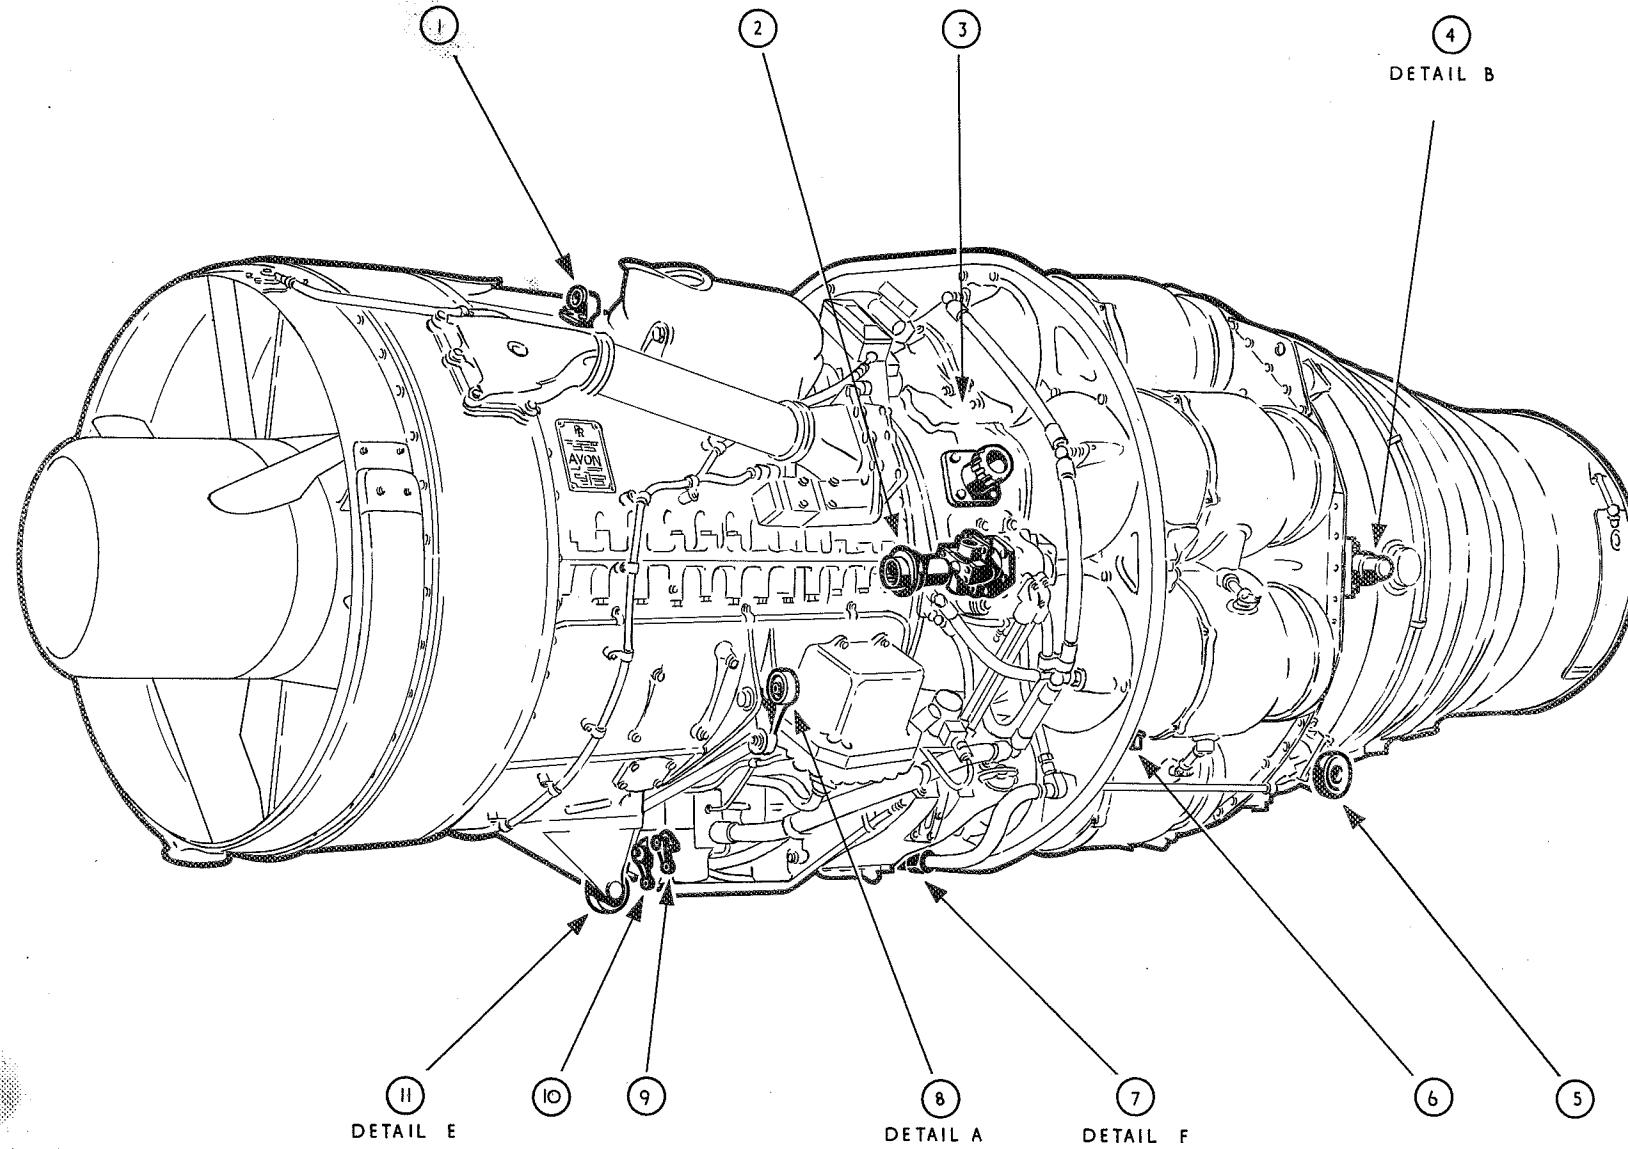
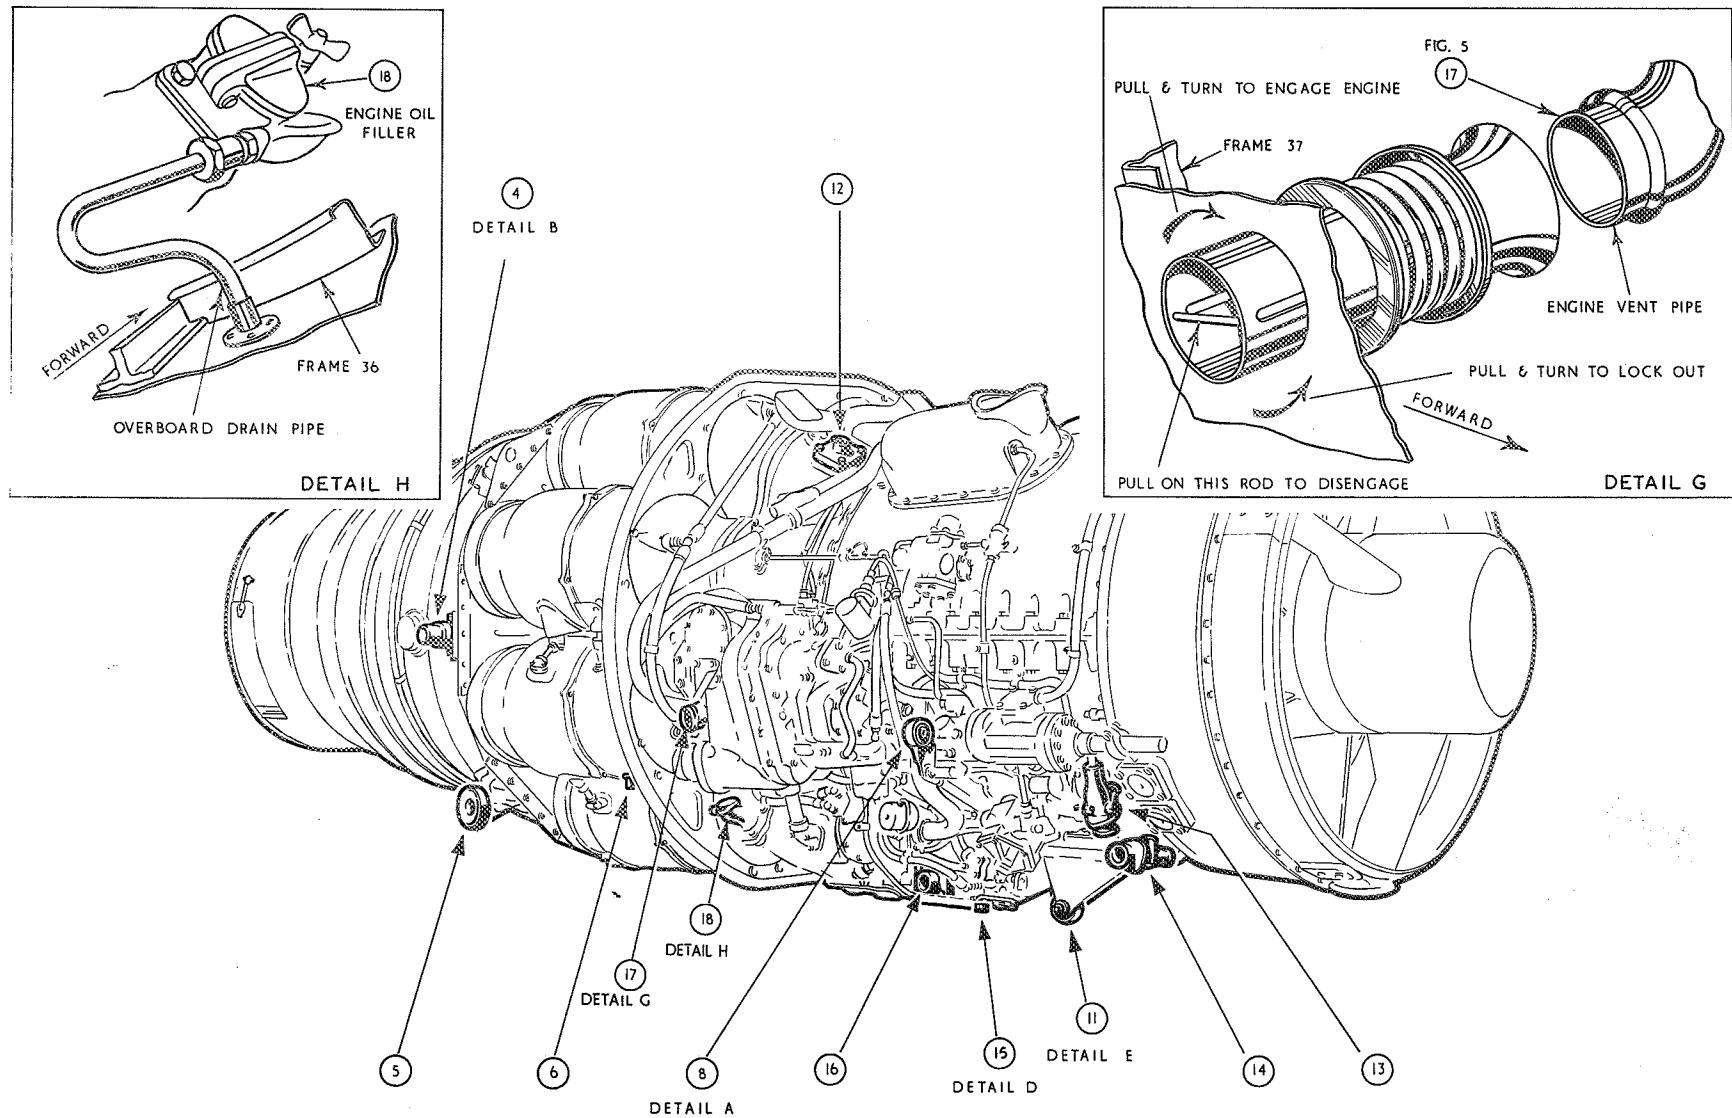
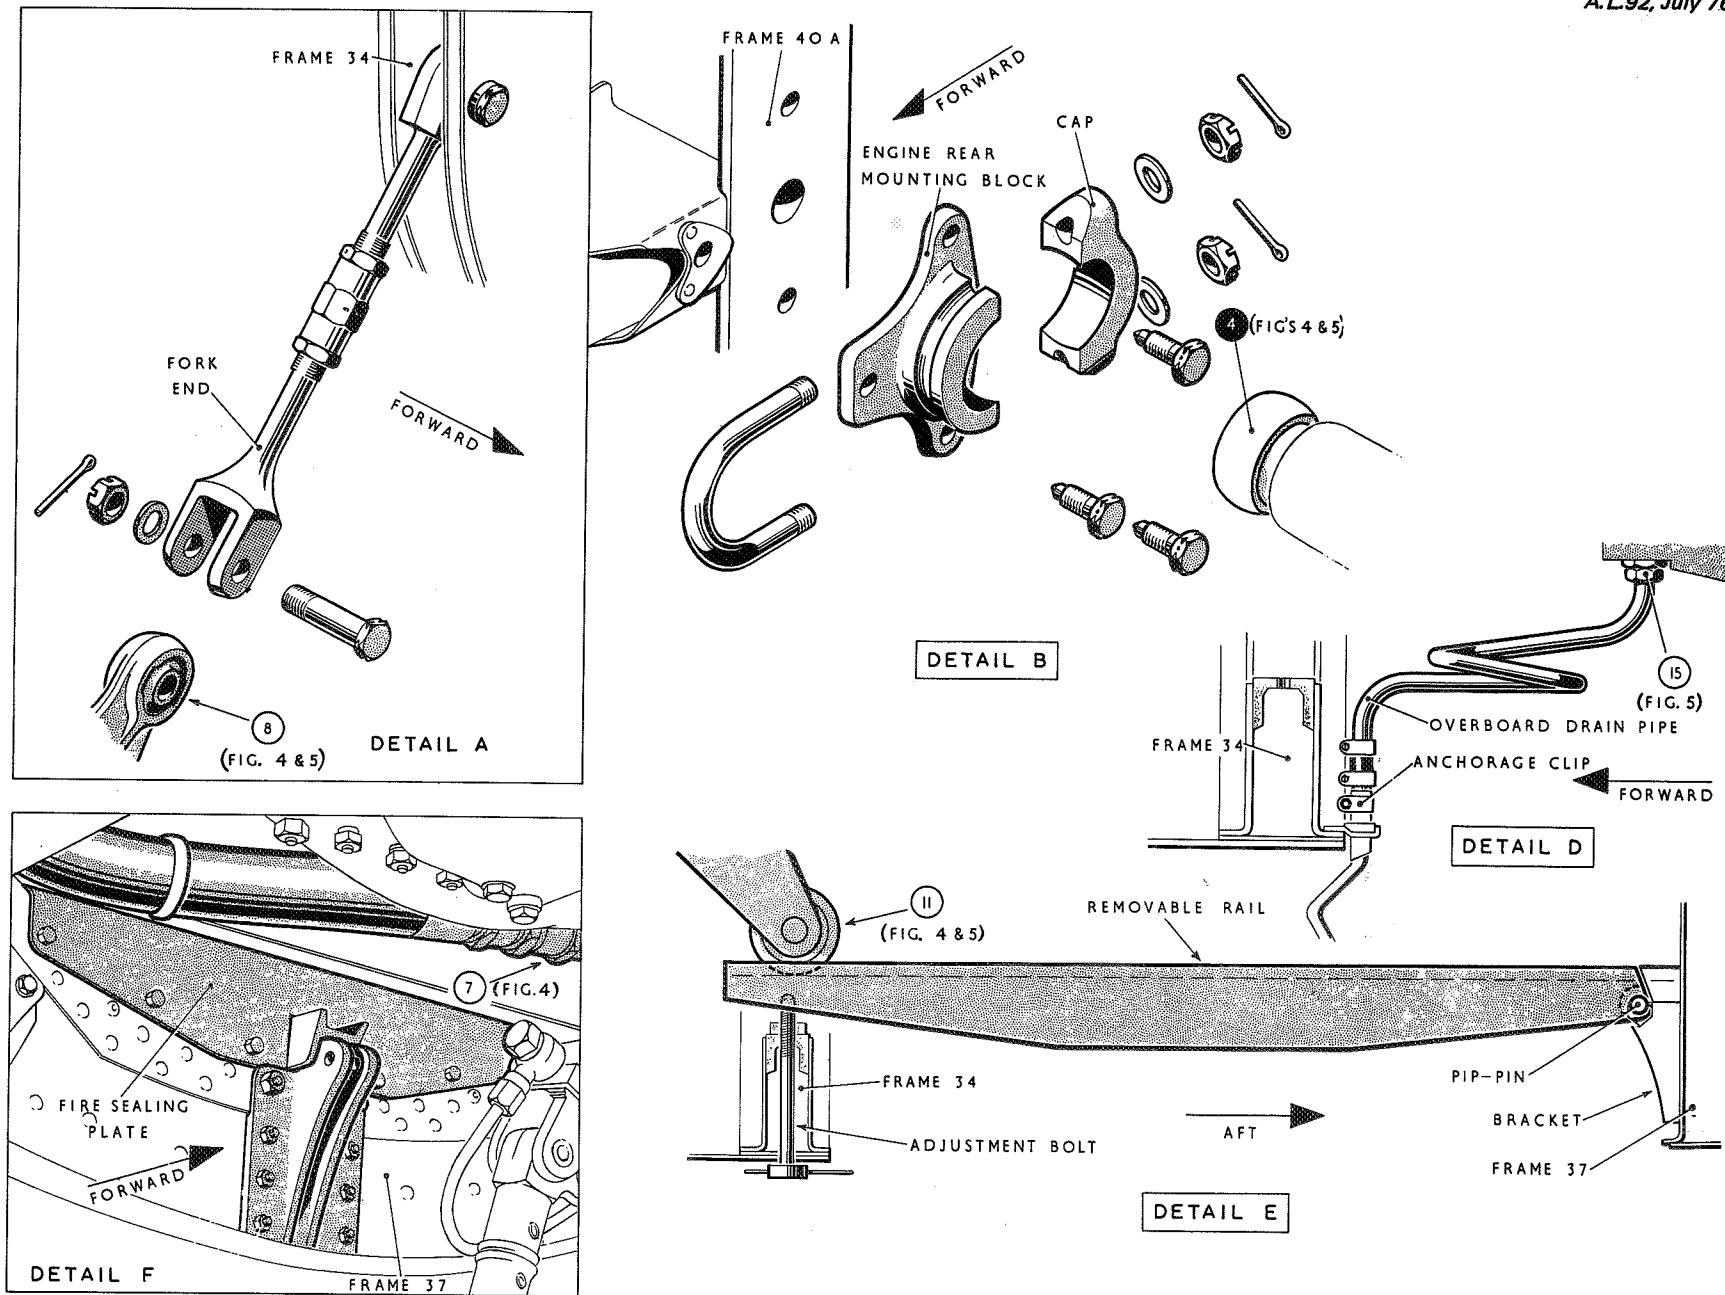

Fig. 4. Engine removal (1)
Fig. 5 Engine removal (2)
Fig.6 Engine removal (3)
Engine removal (fig. 4, 5 and 6)
(5) Remove the wheelcase breather (item 17, fig. 5).
(6) The following disconnections are given in sequence under their appropriate access door or panel:—
- (b) *Gearbox access door.* Disconnect and stow the cable assemblies C.3 and C.6 (fig. 5 items 13 and 14).
- (c) *Engine access door.* Disconnect and remove the drain pipe from the oil filler (item 18, fig. 5). Disconnect the overboard drain pipe (detail D, fig. 5 and 6) from the engine access door landing aft of frame 34 by removing the anchorage clip from the drain connection and from the spill connection (15) at the bottom of the fuel units and fuel pressure warning light switch. Remove the drain pipe from the aircraft. Disconnect the two connecting rods from the high pressure cock and throttle levers (item 9 and 10, fig. 4) and from their respective Teleflex wrapped box units on frame 34. Disconnect the fire extinguisher hose (detail F, fig. 4 and 6) from the rigid metal pipe (item 7, fig. 4) on the engine. Tuck back the hose behind frame 37. Unscrew the six bolts from the fire sealing plate (detail F, fig. 4 and 6) on the forward face of frame 37. Remove the plate from the aircraft. Unscrew the four nuts and disconnect the fuel inlet
pipe from the fuel units (item 16, fig. 5) and from the connection behind the nearest flexible coupling. Remove the pipe and coupling from the aircraft. Place the removable rail (detail E, fig. 6) between frames 34 and 37 and lock in the bracket on the forward face frame 37 by inserting the pip pin. By screwing up the adjustment bolt through the bottom of frame 34 bring the rail into contact with the engine front roller (11) (detail E, fig. 6).
(d) *Engine front mounting access panels.* Disconnect the engine front mountings (detail A, fig. 4 and 6) and pull the fork ends flush to frame 34 in order to clear the engine front mounting eyes (item 8, fig. 4) and avoid fouling the engine on removal. Prise back the serrated, spring loaded locking ring and unscrew the shaft retaining nut to break down the gearbox drive shaft (item 2, fig. 4).
Disconnect the high energy igniter plugs (item 6, fig. 4 and 5) from the combustion chambers numbers 3 and 6.
(f) **Cold air unit access panels.** Disconnect the flexible metallic fuel-tank pressurizing pipe from the engine (item 3, fig. 4) and from the non-return valve aft of frame 36. Remove the pipe from the aircraft. Disconnect the flexible air conditioning pipe from the engine (item 12, fig. 5) and from the connection behind the flexible coupling. Remove the pipe and coupling from the aircraft.
(g) **Engine bleed valve duct panel.** Pre-mod. H.1009 — PR Mk.11 aircraft only. Disconnect the flexible metal-braided gun heating pipe from the elbow on the engine (item 1, fig. 4) and tie back to the aircraft structure.
(7) Having disconnected the above items, align the engine removal trolley with the engine rail lug on the rear face of frame 40A. Screw down the built in jacks at each corner of the trolley and raise it to the required height. Bring the engine rear roller channels of the trolley into alignment with the engine rear rollers (item 5, fig. 4 and 5) by turning the lateral adjustment handles on the cross members above the trolley axles. Lock the trolley to frame 40A by inserting the pip pin in the con-
necting link of the trolley. Dismantle the engine rear mountings (detail B, fig. 6) by removing the split pins, slotted nuts and washers from the 'U' bolts. Withdraw the caps off the 'U' bolts. Pull the engine rearward about six inches in order to free the special bolts securing the rear mounting blocks (item 4, fig. 4 and 5). Break the wire locking and unscrew the three special bolts securing the engine rear mounting blocks to frame 40A. Remove the blocks from the aircraft. Transfer the engine from the aircraft to the trolley and secure by replacing the retaining bolts in front of the engine rear rollers at the ends of the roller channels. If the engine is not to be re-installed remove the pin and bearing from the port rear engine mounting and the bearing from the starboard rear engine mounting and retain with the mounting blocks. Withdraw the pip pin to disengage the trolley from frame 40A. Lower the trolley on to its wheels and tow away.